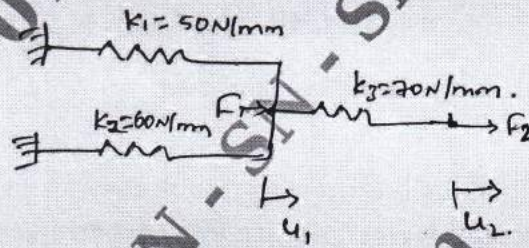

Fig.Q1(b)
b. For the spring system shown in Fig.Q1(b) using principle of minimum potential energy determine the Nodal displacement take  $F_1 = 75N$ ,  $F_2 = 100N$ .